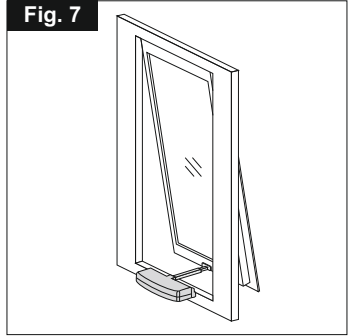
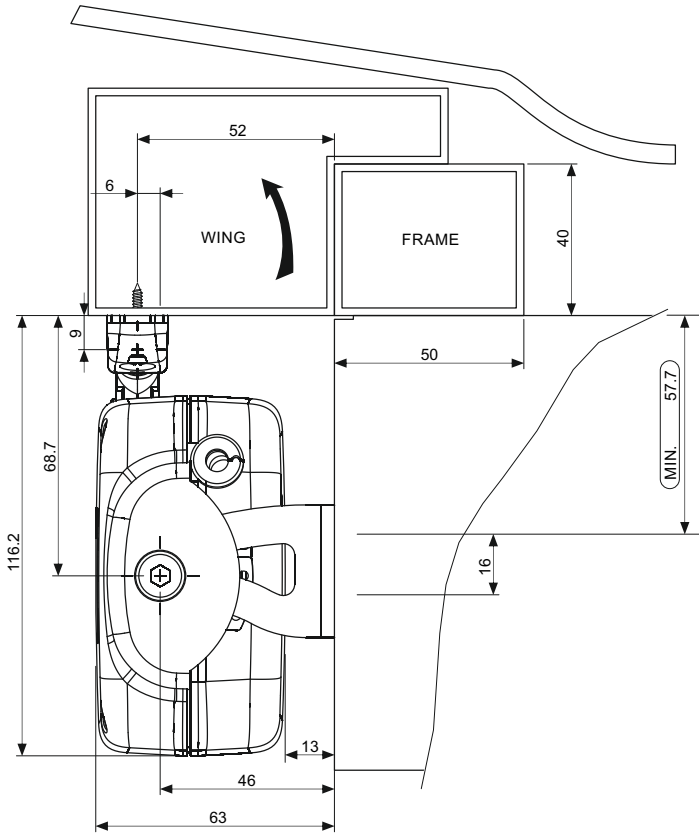

Fig. 7
Fig. 13
5.2- TOP HUNG WINDOWS (Fig. 7 and Fig. 13 ÷ 20)
- 2) **Fig. 13-** With a pencil draw the centre line "X" of the window frame;